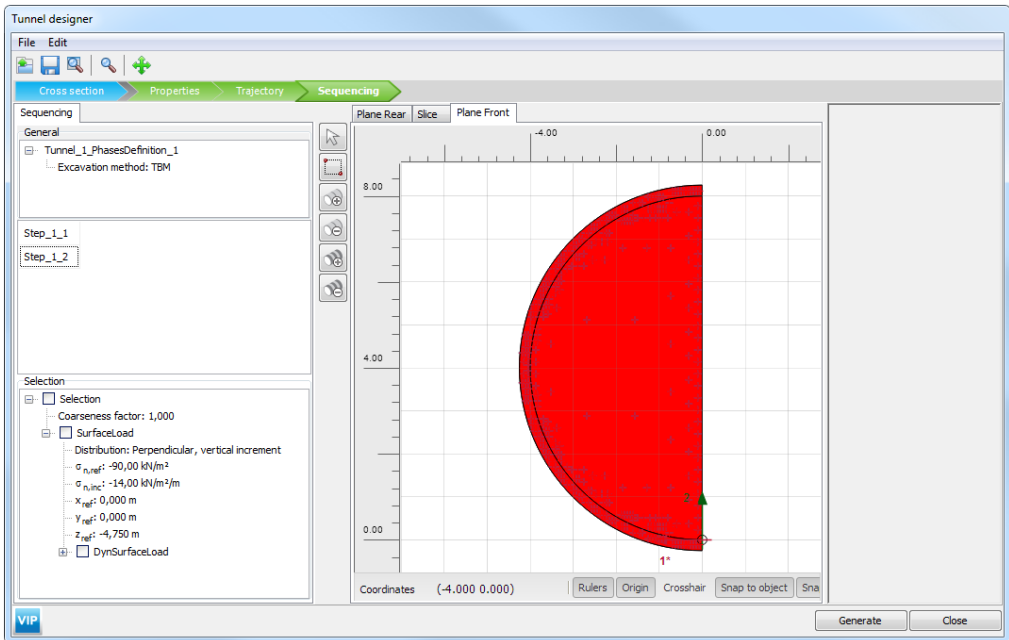

Figure 5.12 *Plane Front* tabsheet in the *Tunnel designer* for Step_1_2
- Step_1_2, TBM with concity:** The difference with the front of the TBM is only the face pressure. Select the *Plane Front* and select all the surfaces. In the *Selection explorer*, deactivate the surface load corresponding to the face pressure (Figure 5.12).